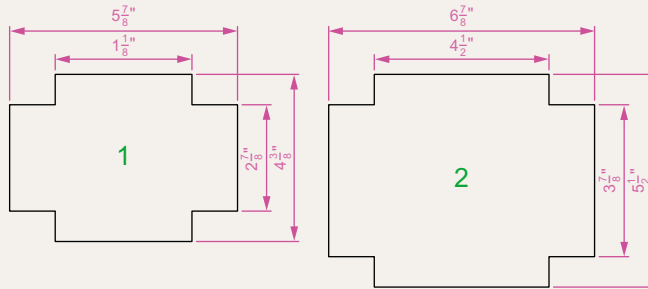

Fig. 5.55 Exercise 9
9. Construct the left-hand drawing of Fig. 5.55. Include the dimensions in your drawing. Then, using the **Stretch** tool, stretch the drawing, including its dimensions to the sizes as shown in the right-hand. The dimensions are said to be **associative** (see Chapter 6).